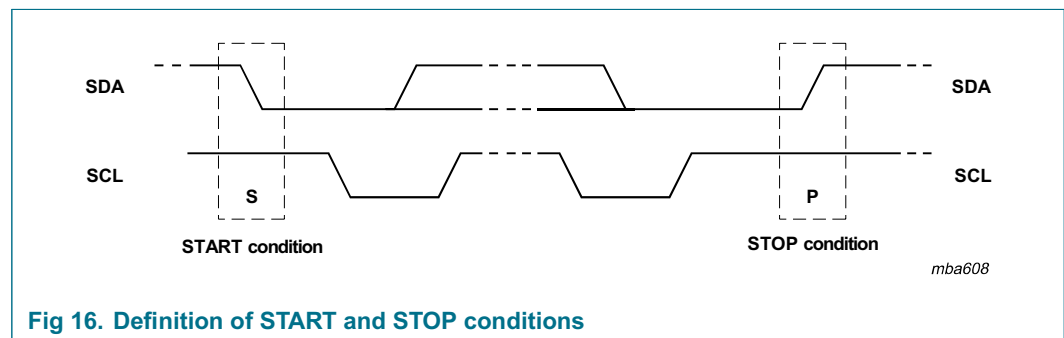

Fig 16. Definition of START and STOP conditions
Both data and clock lines remain HIGH when the bus is not busy. A HIGH-to-LOW transition of the data line while the clock is HIGH is defined as the START condition (S). A LOW-to-HIGH transition of the data line while the clock is HIGH is defined as the STOP condition (P) (see Figure 16.)